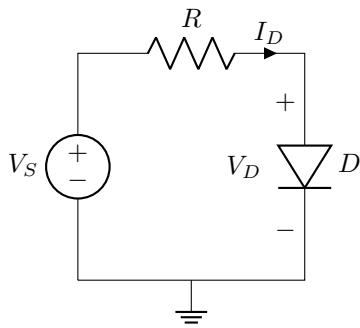

Figure 1: Forward-bias pn junction I–V characteristic measurement circuit.
Begin by constructing the circuit shown in Figure 1 on the breadboard using the small-signal silicon diode and the 1 kΩ resistor. Ensure that the diode is oriented correctly with the anode connected toward the positive supply terminal and the cathode toward ground. Set up the lab instruments to measure the diode voltage V_D and current I_D . To measure the voltage, connect the leads of the DMM (Digital Multimeter) across the diode terminals to measure the diode voltage directly. To measure the current, there are two options: connect a second DMM in series with the circuit (being careful to observe the current measurement limits of the meter) or measure the voltage across the resistor and calculate the current using Ohm's law ($I_D = V_R/R$). The second method is often preferred as it avoids potential issues with the meter burden voltage.
2. For the circuit in Figure 1, assume $V_S = 5 \text{ V}$, $R = 1 \text{ k}\Omega$, and the diode forward voltage is 0.7 V when conducting. Calculate (a) the voltage across the resistor, (b) the current through the diode, and (c) the power dissipated by the diode. Show all calculations.